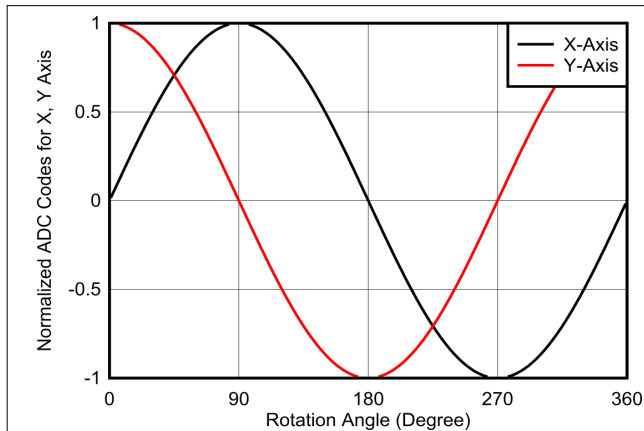
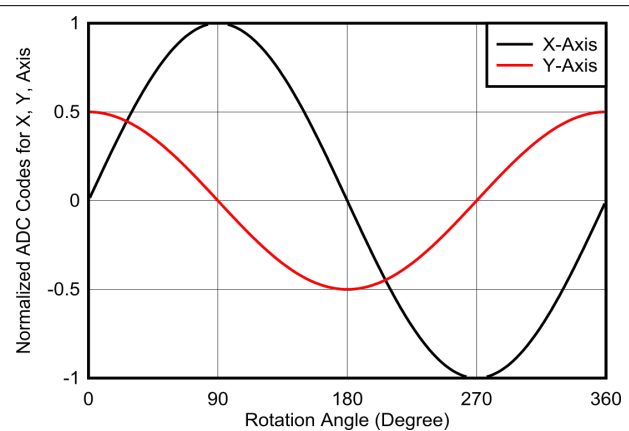

Figure 8-10. X and Y Sensor Data for Full 360 Degree Rotation for On-Axis Measurement
Figure 8-11. X and Y Sensor Data for Full 360 Degree Rotation for Off-Axis Measurement
- A normalized plot for the full 360 degree rotations are represented in Figure 8-10 or Figure 8-11.